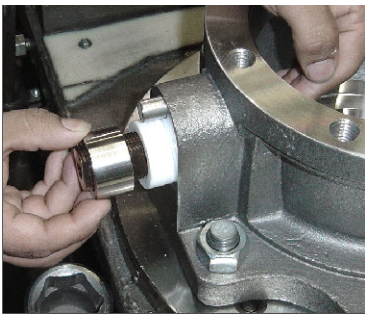

Figure 12 - Installing Packing and Spacer
3.2.6) Install the packing (5 rings) onto the valve stem, pushing them into the shaft bore (Fig. 12).
3.2.7 Insert the spacer collar into the shaft bore (Fig. 12). It will protrude about 1/4" when seated. This is normal.